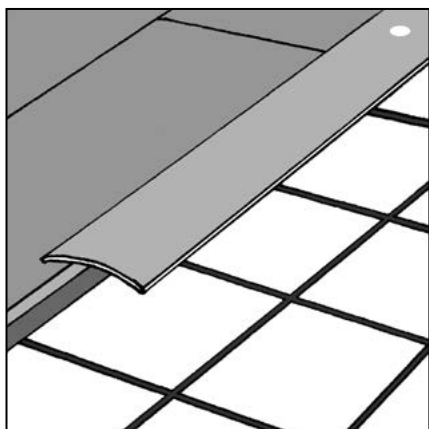

Figure 10 Threshold strip
7.1.11.12 Installing across multiple rooms (fig 10)